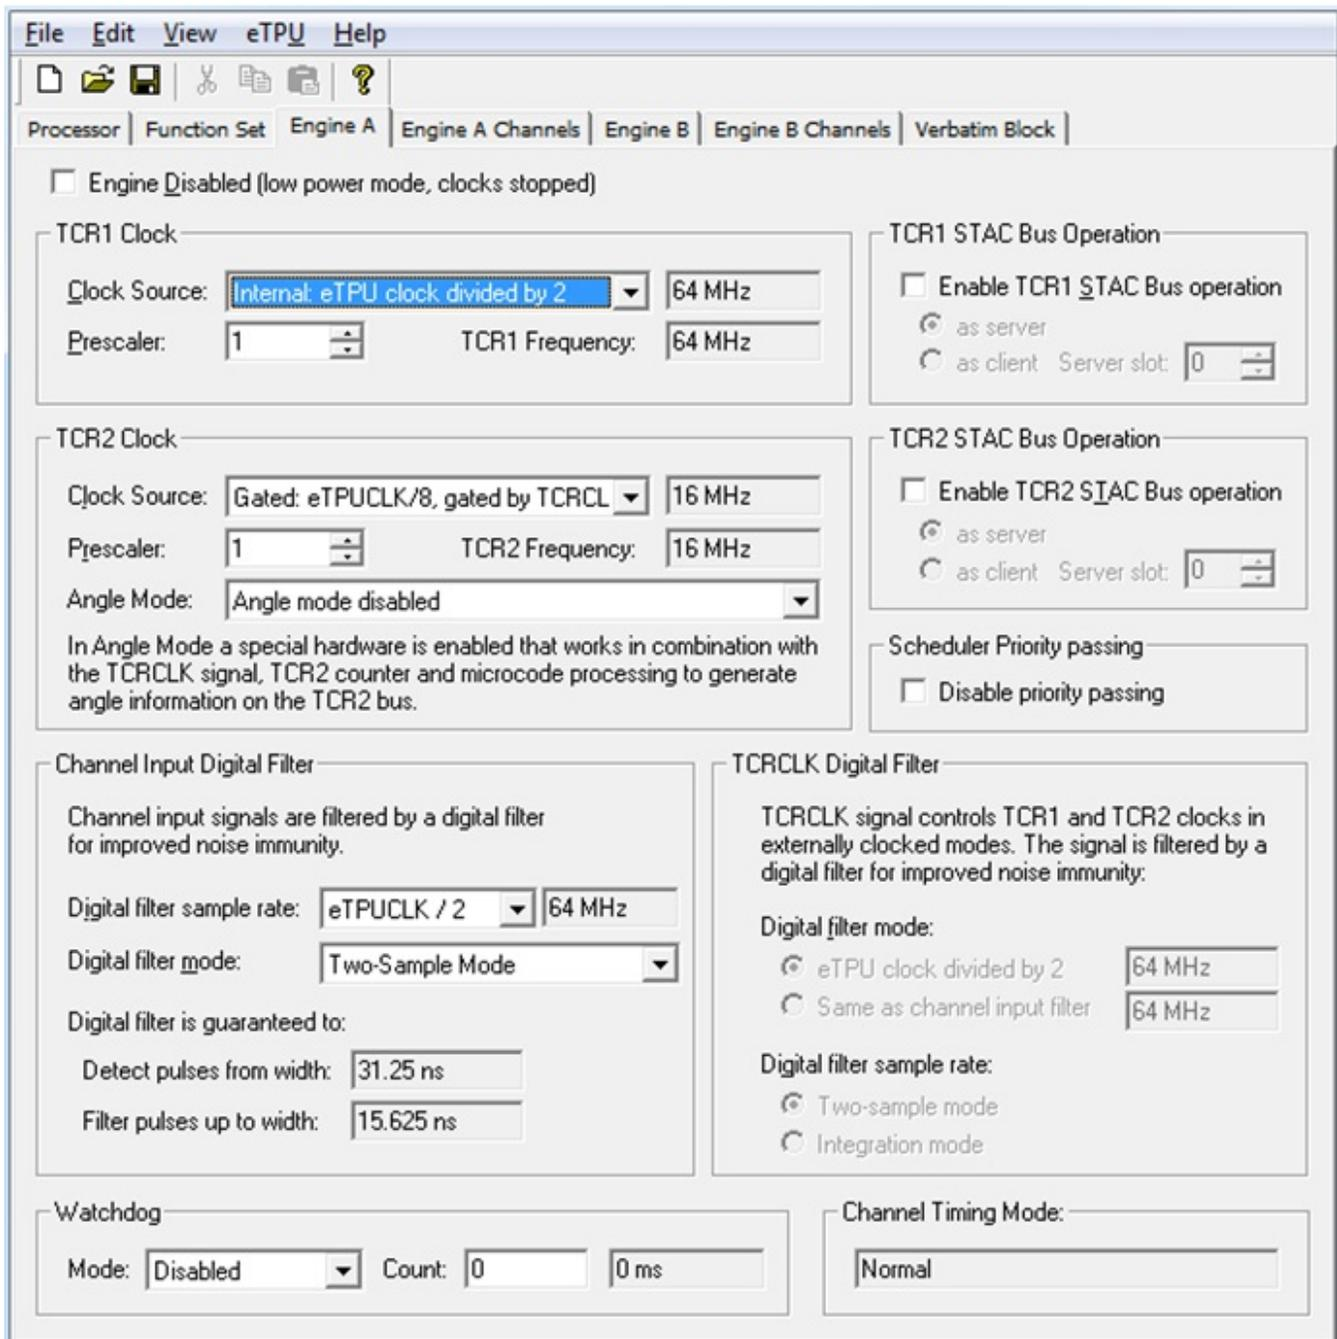

Figure 3. Configuring the Engine A
7. Configure the Engine A, as depicted in Figure 3.